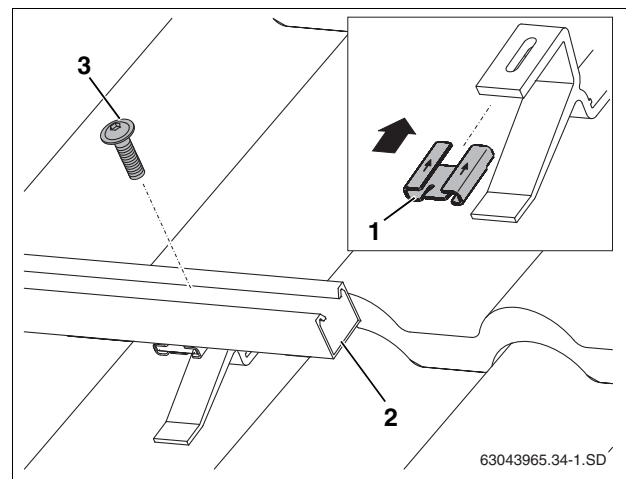

Fig. 29 Fastening profile rails to the roof hook
- ▶ Push threaded clip (Fig. 29, [1]) onto the roof hook in the direction of the arrow.
- ▶ Place the lower horizontal rails (Fig. 29, [2]) onto the roof hooks and loosely fasten M8 bolt (Fig. 29, [3]) so that the rails can still be aligned.